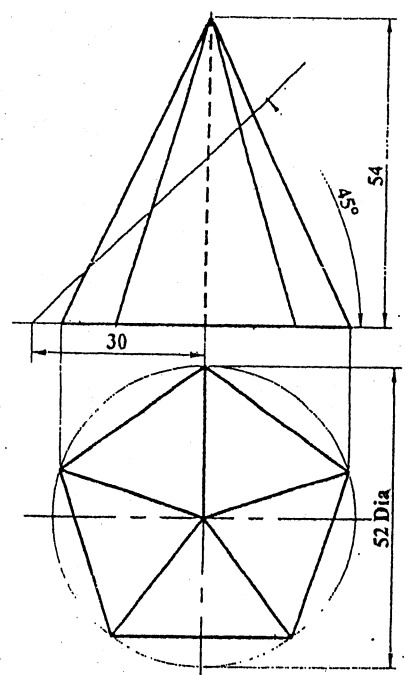

Figure P.4
4. Draw a complete orthographic drawing of a solid cut by a plane as shown in Figure P.4. Find the true shape of the section. The develop the lateral surface of the solid. [12]